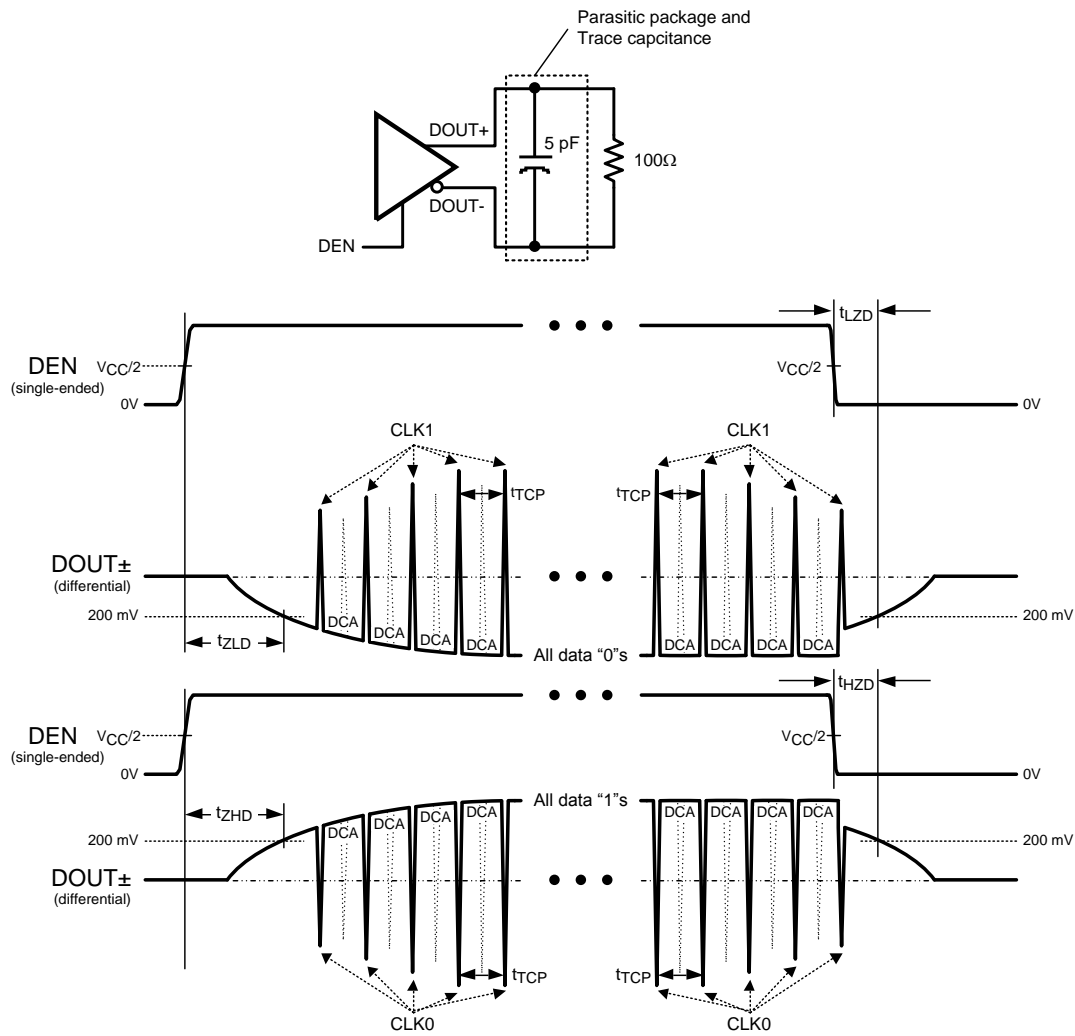

Figure 6. Serializer TRI-STATE Test Circuit and Delay
| $t_{HZD}$ | DOUT $\pm$ HIGH to TRI-STATE Delay   | $R_L = 100\Omega$ ,$C_L = 10\text{ pF}$ to GND(Figure 6) (2) |     |                | 15           | ns                |